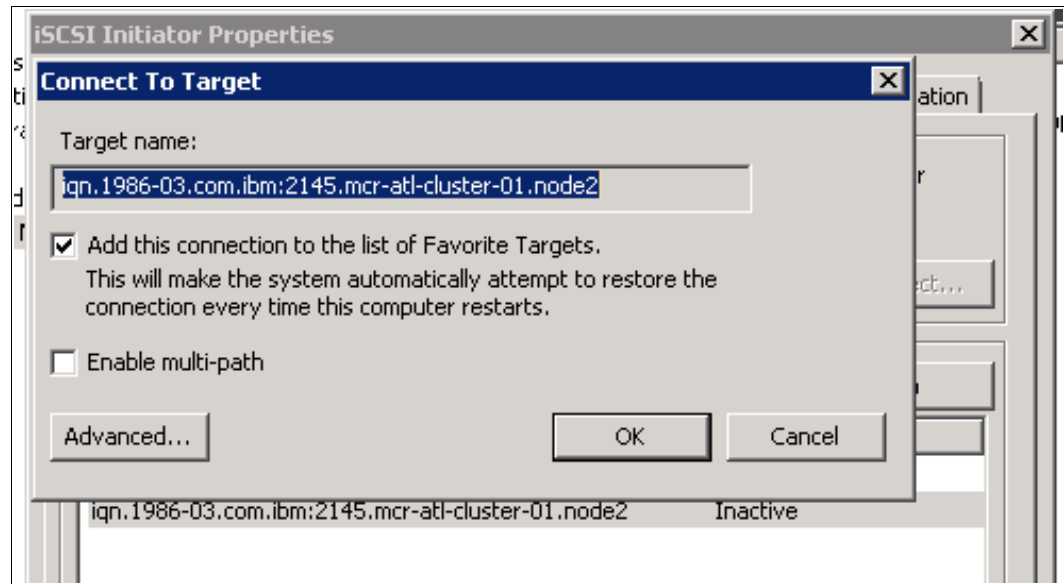

Figure 5-54 Connect to a target
7. Highlight the inactive port and click **Connect**. The Connect to Target window opens, as shown in Figure 5-54.